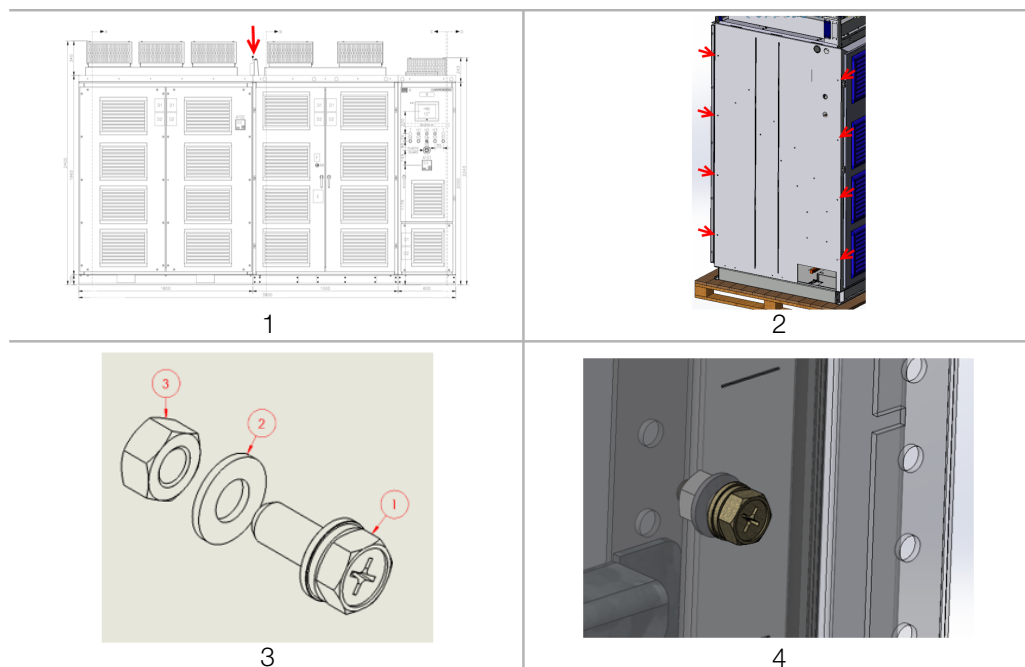

Figure 6.5: Procedure for coupling the MVW3000
1. Position the columns side by side so that they are aligned in the direction of depth, according to Figure 6.5 on page 6-11 - image 1;
2. Use the screws, washers and nuts that come with the product in the separate item box in the eight available coupling holes, Figure 6.5 on page 6-11 - image 2;
3. Mount the screws according to the sequence shown in Figure 6.5 on page 6-11 - image 3 and apply a torque of 19 Nm:
4. Screw, nut and washer mounted as shown in Figure 6.5 on page 6-11 - image 4.